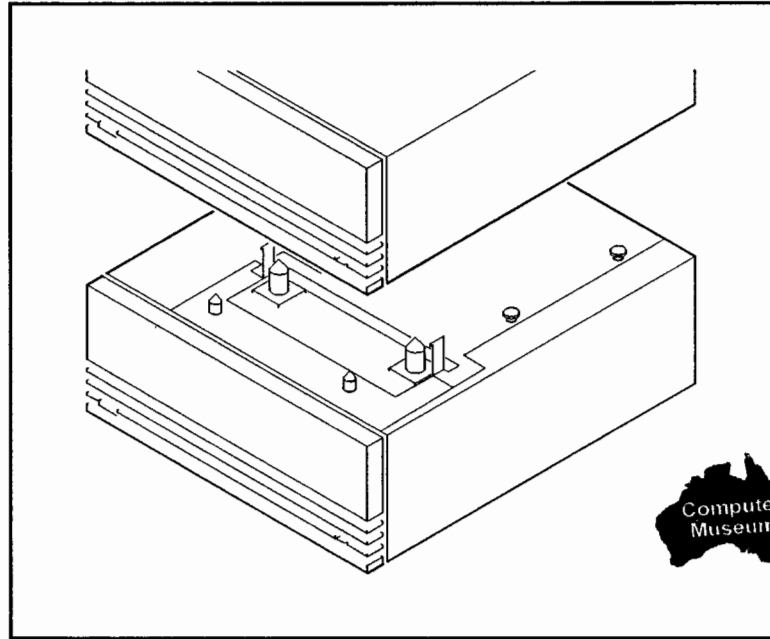

Figure 4-74. Connecting the HP 98700 to the HP 98710A
- e. Gently but firmly press the HP 98700 down until the connector engages and seats (see Figure 4-74).